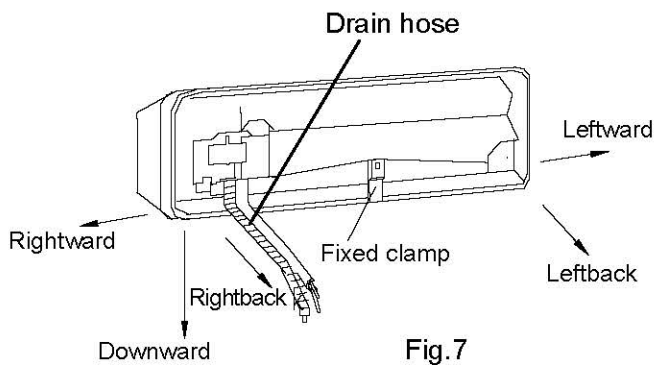

Fig.7
Notes: Left chart is available for the position of drain hose, refer to Fig.7.
1. Connecting right back tube (similar to right lower tube) (Optional, Refer to Fig.7)